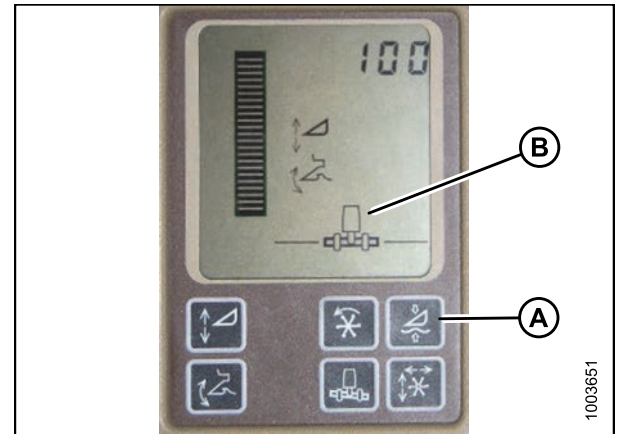

Figure 4.49: Combine Display
Do **NOT** use the active header float function (A) in combination with the MacDon Auto Header Height Control (AHHC)—the two systems will counteract one another. The header symbol (B) on the display should NOT have a wavy line under it and should appear exactly as shown on the Active Header Control Display in Figure 4.49: *Combine Display*, page 109.